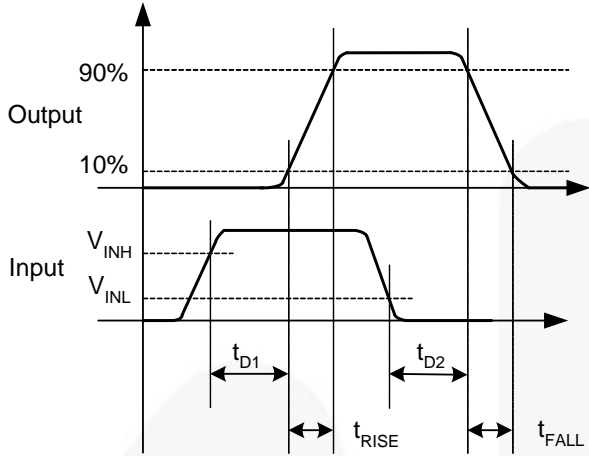
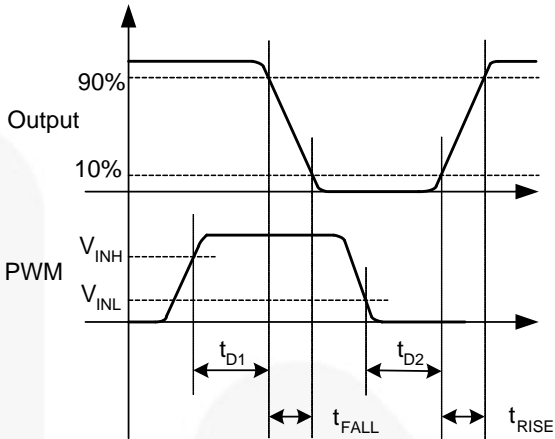

Figure 6. IN Pin
Figure 7. DIM Pin
- 7. See *Timing Diagrams of Figure 6 and Figure 7.*